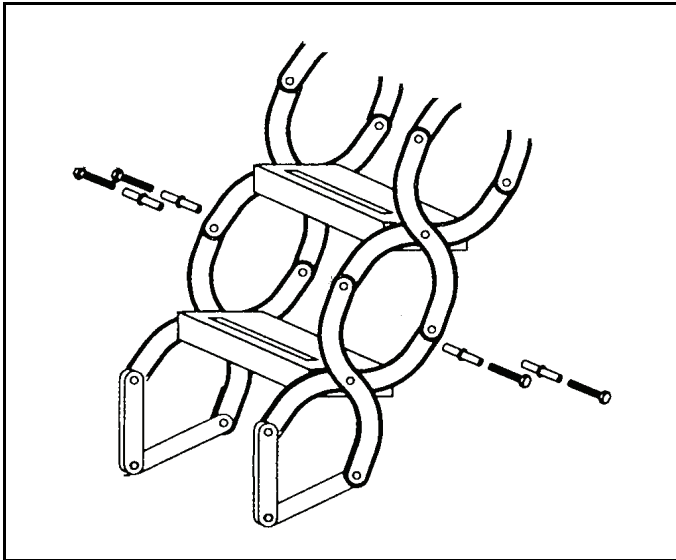

Figure 9
1. Lower stair and stop to within two feet of the floor to allow space for added treads. Remove bottom tread of unit by removing the four bolts, washers and sleeves. Figure 9. This will be reattached at the end.